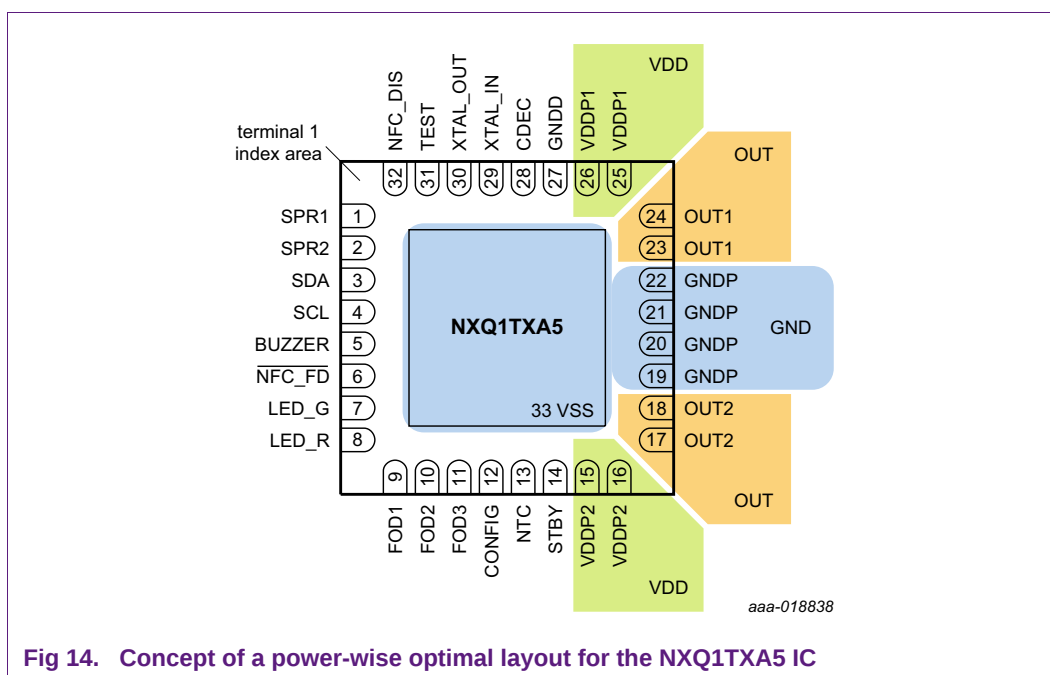

Fig 14. Concept of a power-wise optimal layout for the NXQ1TXA5 IC
- Attach sufficient copper to the supply pins 15, 16, 25 and 26. The concept layout in Figure 14 gives an idea of a power-wise optimal layout.